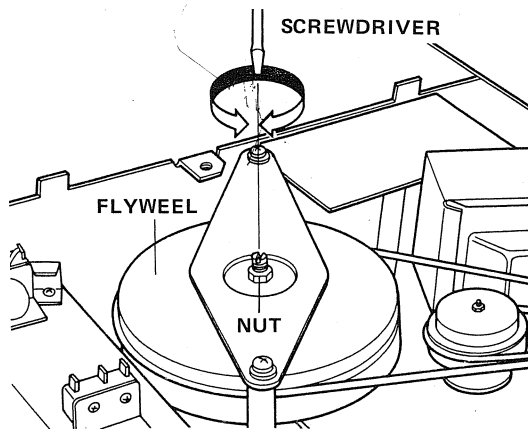

Fig. 7
2. Remove wooden cabinet. Loosen hex. nut (Fig. 7) about 1 or 2 turns.
3. Adjust thrust bearing screw (Fig. 7) with screwdriver to obtain correct amount of play.